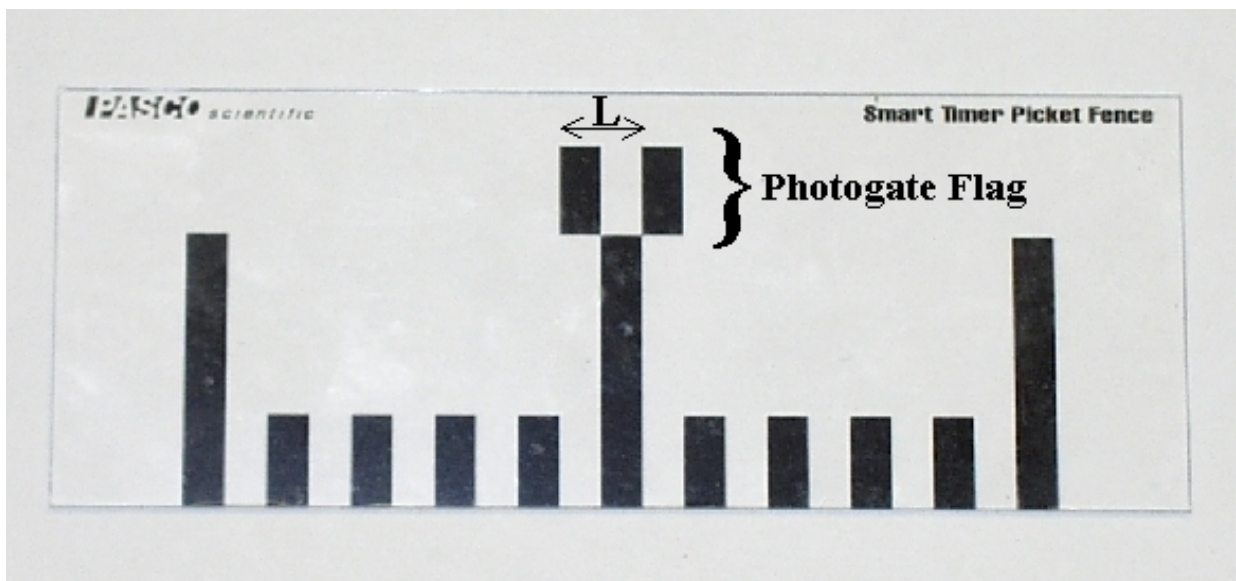

Figure 1: Photogate Sail with Flag
The photogate sail must be mounted on the cart before beginning the lab exercises. The photogate flag as shown in Figure 1 maintains a fixed position between the photogate heads. The photogate sensors detect the amount of time the sail blocks a continuous stream of light transmitted between the photogate heads.
5. Turn on both Smart Timers. Select the correct timing modes. Press the **Select Measurement** button twice. **Speed** appears on the LCD display. Press the **Select Mode** button once. **Speed:One Gate** now appears on the display. Repeat this process for the other Smart Timer. The timers are now set to the correct timing modes. The Smart Timers record the average speed the photogate flag of length L travels as it passes through the photogate light sensor (see figure 1).